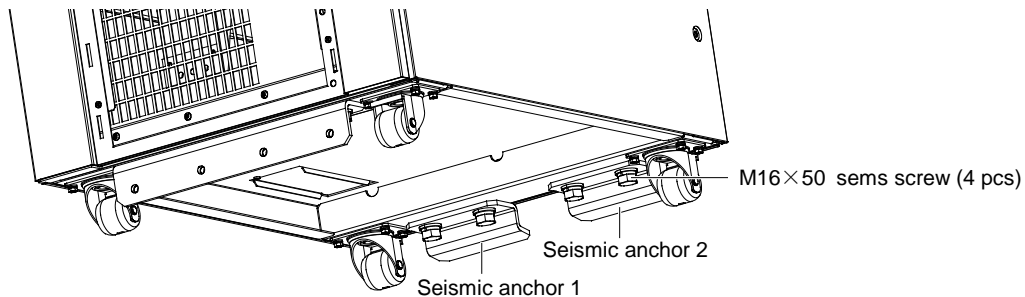

Figure 8-10 Installing seismic anchor 1 and seismic anchor 2
2. Use four M16 × 50 sems screws to install seismic anchor 1 and seismic anchor 2 on the rear bottom of the UPS cabinet, as shown in Figure 8-10.